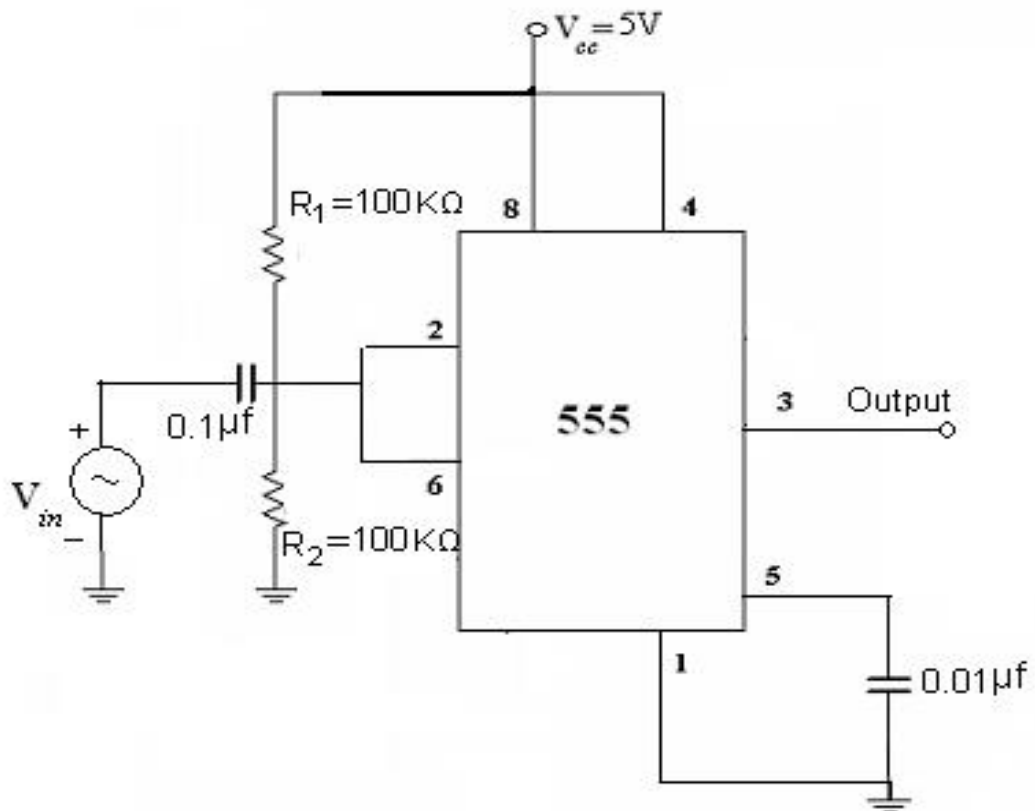

Fig.12.2 :Schmitt trigger circuit using IC 555
1. Connect the circuit as shown in Fig 12.2.